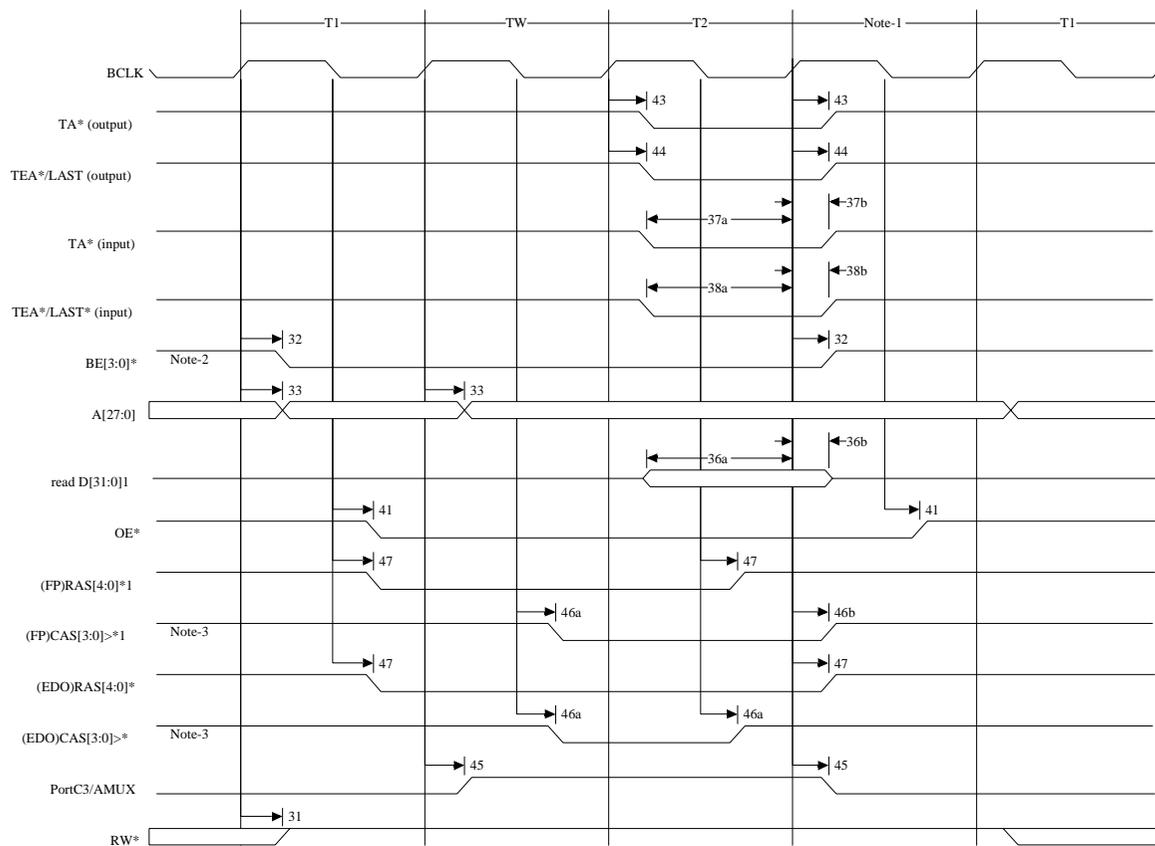
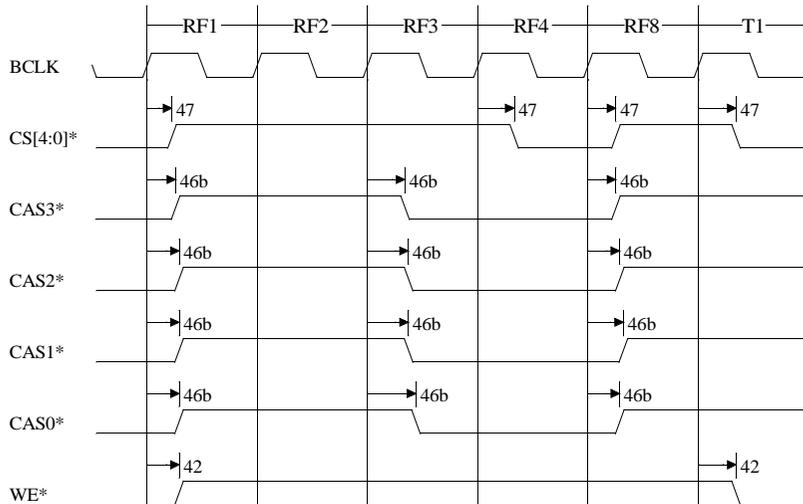

Figure 70: Fast Page and EDO DRAM Read
Figure 77: Fast Page and EDO DRAM Refresh (RCYC = 3)
Table 145 describes the values shown in the fast page (FP) and EDO DRAM timing diagrams (Figure 70 through Figure 77).